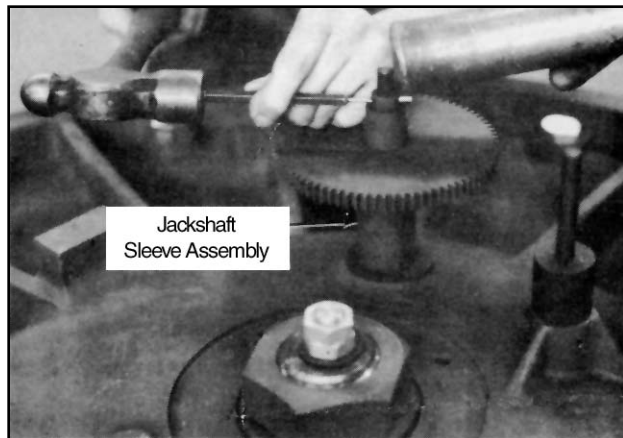

Figure 17
8. Remove jackshaft gear assembly. Use "back up" when removing pin to prevent damage to shaft, Figure 17.